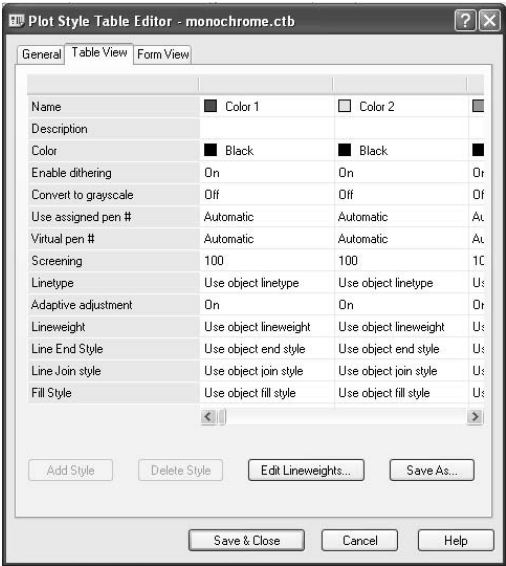

FIGURE 14.22 The Table View tab of the Plot Style Table Editor dialog box for the monochrome.ctb file
- Close this plot style table and open the color-dependent monochrome file. Click the Table View tab. Now look at the Color property. All plot styles have the color Black assigned (see Figure 14.22).